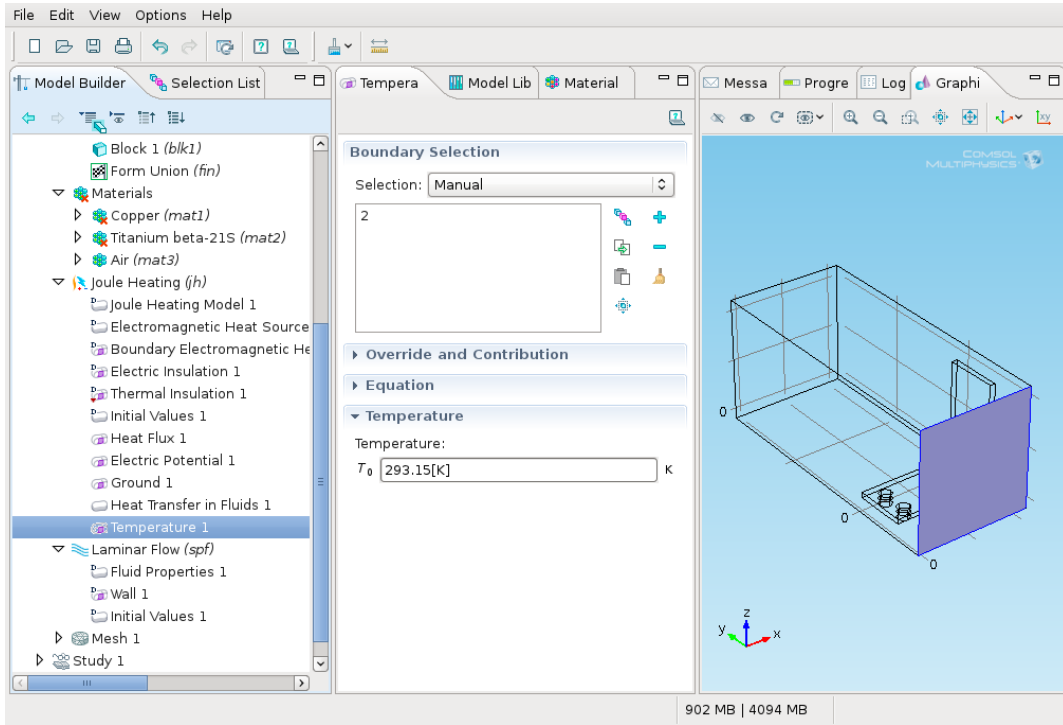

Figure 17: Temperature input boundary condition of the air flow.
- 7 Add boundary 2 into the temperature selection list (Fig. 17). Click the *Transparency* button to switch the transparency off.